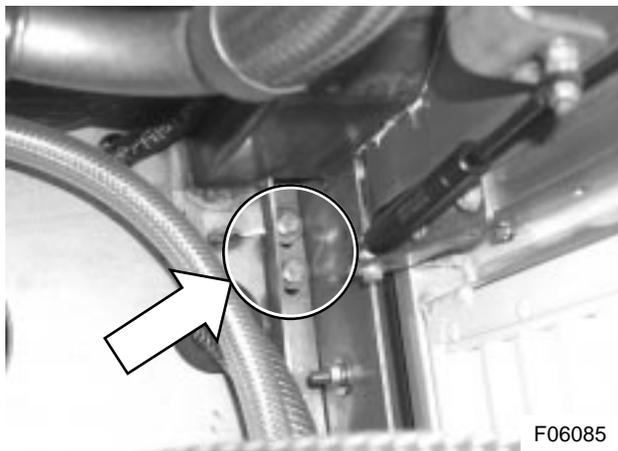

Figure 30: Hinge bolts. Upper hinge bolts shown only
- 1) Open the access door to the waste tank. Undo the door hinge bolts of the upper and lower hinge. The hinge bolts are located in the channel, which borders the lift compartment (see Figure 30). Close the access door again.